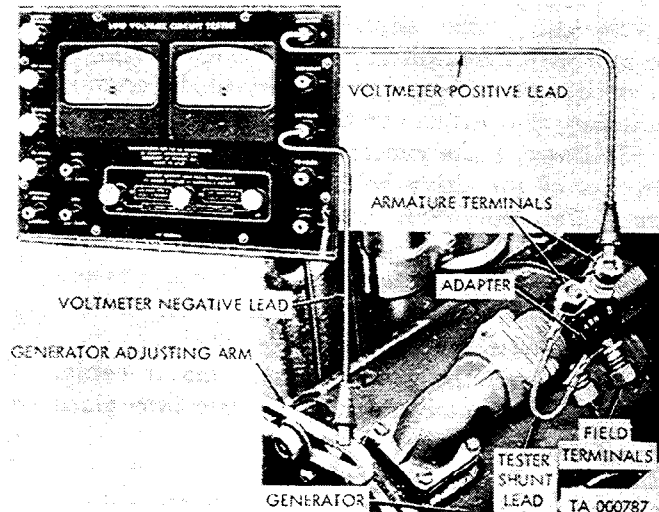

Figure 2-31. Troubleshooting generator.
d. *Check Generator and Generator Regulator for No-Charge (Fig. 2-31).* The generator and generator-regulator check is to determine the cause of a no-charge reading of the ammeter or battery-generator indicator. In order to obtain accurate readings, the engine must be at normal operating temperature to idle properly during the test.